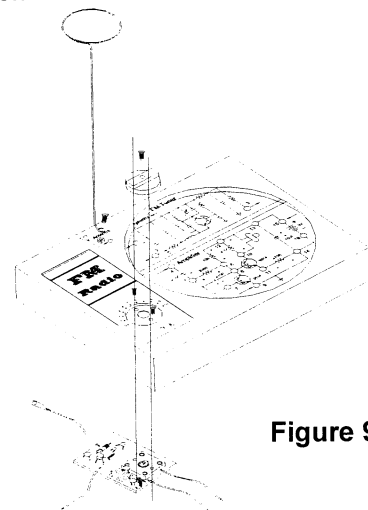

Figure 9
- Look at figure 9 and mount the FM Tuner Assembly to the bottom of the Panel Board.
- On the bottom, connect the white wire from the FM Tuner Assembly, under the antenna nut. (See Figures 9 & 10)